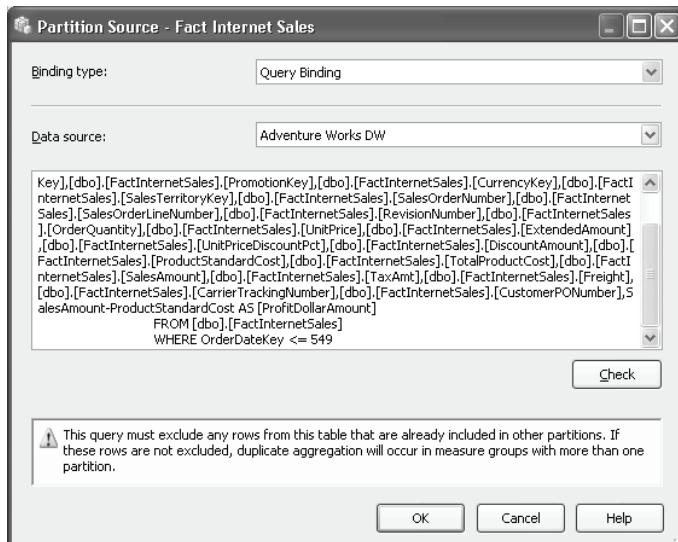

Figure 14.21 Create a partition filter by specifying a WHERE clause for the source query.
5. Expand the Binding type dropdown and select *Query Binding*. When you do this, BI Studio replaces the partition table binding with a SELECT query (Figure 14.21).